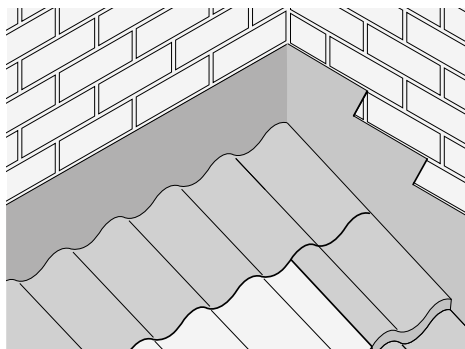

Fig. 27 – Top edge abutment
- 8 Dress lead to profile of tiles (Fig. 27).